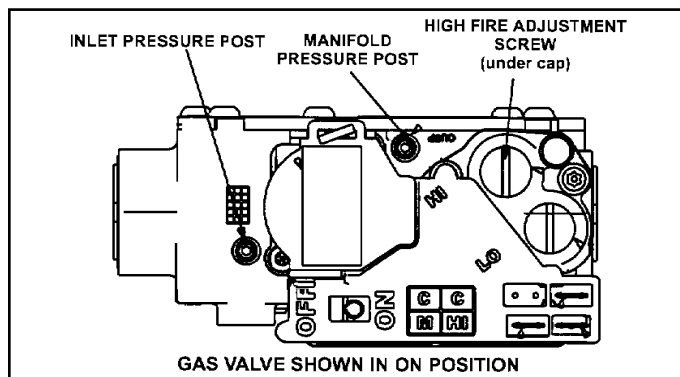

Figure 50. Gas Valve
6. Move gas valve switch to OFF. See Figure 50.
8. Move gas valve switch to ON. See Figure 50.
An inlet post located on the gas valve provides access to the supply pressure. See Figure 50. Back out the 3/32 hex screw one turn, connect a piece of 5/16 tubing and connect to a manometer to measure supply pressure. See Table 15 for supply line pressure.
A manifold pressure post located on the gas valve provides access to the manifold pressure. See Figure 50. Back out the 3/32 hex screw one turn, connect a piece of 5/16 tubing and connect to a manometer to measure manifold pressure.
5. Repeat on high fire and compare to value given in Table 15. If necessary, make adjustments. Figure 50 shows location of high fire and low fire adjustment screws.